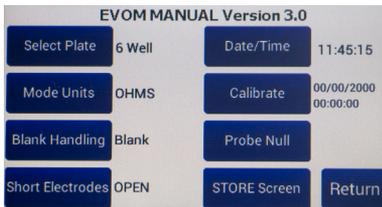
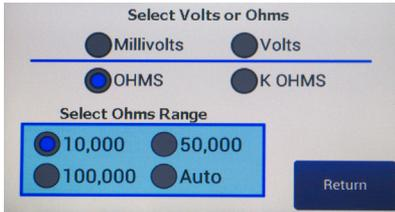

Fig. 50—(Left) Press Setup to access the Setup screen.
Fig. 51—(Right) Select the mode. For voltage measurements, choose Millivolts or Volts.
- Press the **Mode Units** button and choose either Millivolts or Volts for making voltage measurements (Fig. 51). Press the **Return** button to go back to plate settings screen (Fig. 50).